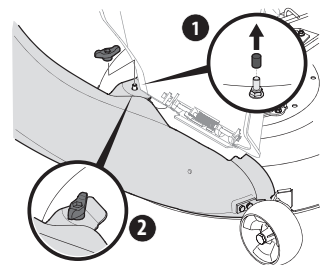

Figure 20
- Secure the bagger chute to the deck using a wing knob from cart collection support assembly 689-02019. See Figure 20.
- NOTE:** If present, remove the protective cap off of the mounting stud on the mowing deck as shown in the upper inset of Figure 20.